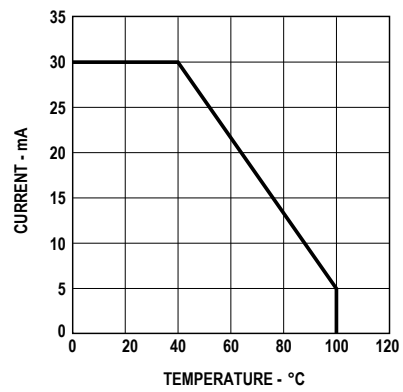

Figure 4. Maximum forward current vs. ambient temperature. Derated based on $T_{jMAX} = 110^{\circ}C$, $R_{\theta JA} = 500^{\circ}C/W$.
1. Derate linearly as shown in Figure 4.